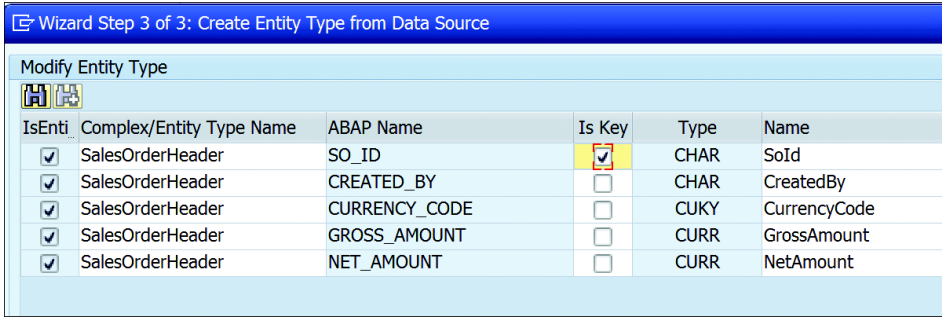

Figure 19.107 Mark Key Fields
8. In the next step, mark SO_ID as the key field (select the Is KEY checkbox; see Figure 19.107) and click FINISH.